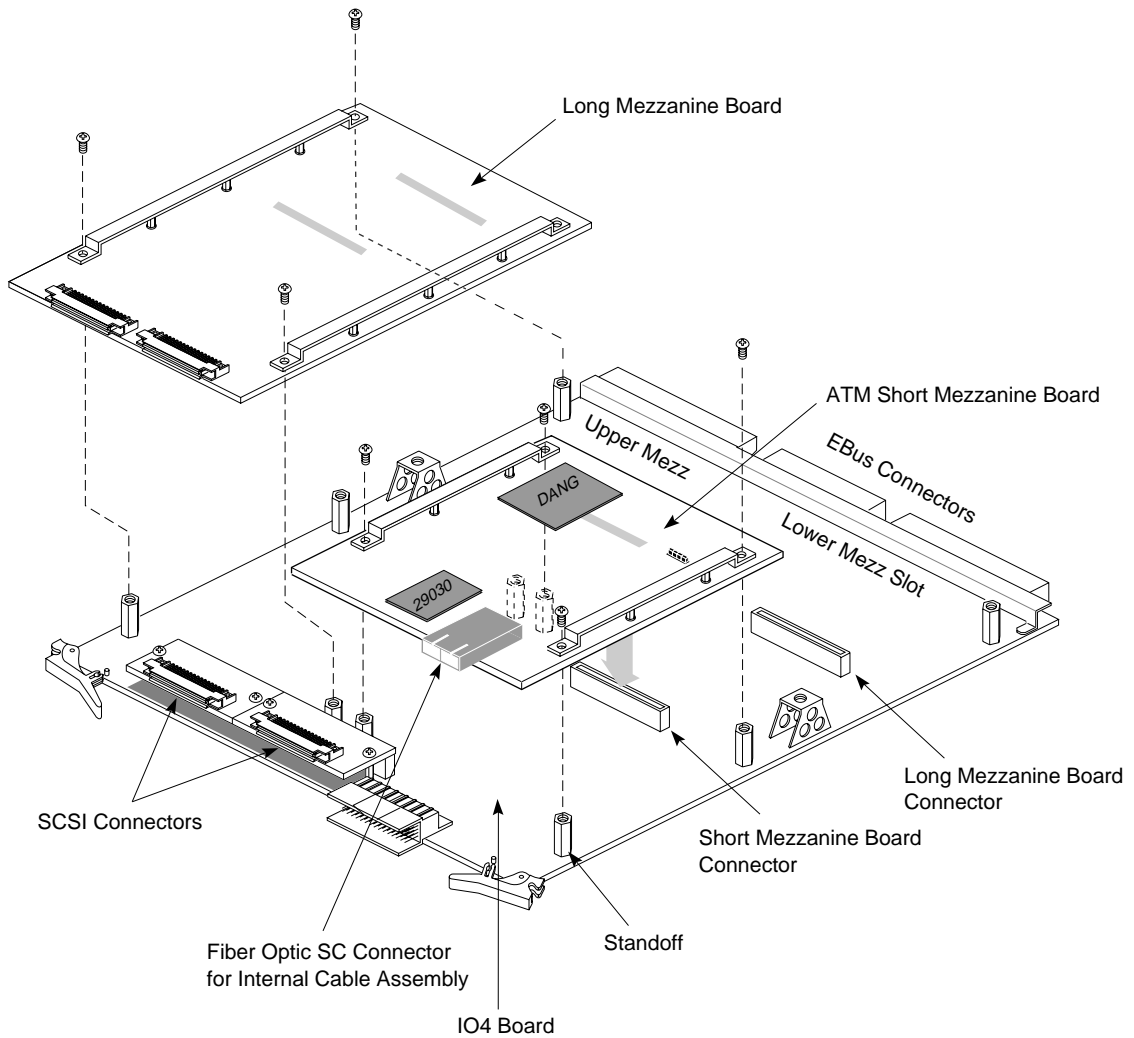

Figure 2-15 IO4 Board with an ATM Mezzanine Board
2. Lay the board on a flat antistatic surface so that the component side faces up and the SCSI connectors face toward you, as illustrated in Figure 2-15.
3. Locate the selected mezzanine slot (upper or lower) and remove the four screws from the standoffs, as illustrated in Figure 2-15. If the screws are missing, this is not a problem.
4. Position the IRIS ATM board onto the selected slot so that the connector on the bottom of the board matches the receptacle on the IO4 board and the standoffs match the ATM board's holes. Figure 2-15 illustrates the correct positioning for the upper and lower slots.